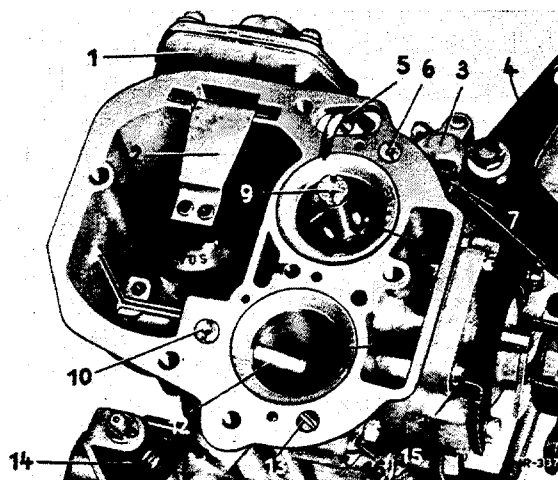

Fig. M 33 S/1
2. Take out the plastic float (2) together with the anchor and unscrew the injection tube (5), together with gasket (Fig. M 33 S/1).
3. Unscrew the air correction jet (9) and the mixing tube of Stage 1 and also the air correction jet (10) and the mixing tube of Stage 2 (Fig. M 33 S/1).
4. Unscrew the idle air jet (6) of Stage 1 and the grub screw (13), which is installed instead of the idle air jet of Stage 2 (see Fig. M 33 S/1).